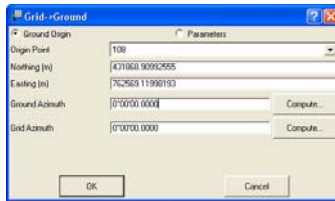

Figure 2-23. Creating Ground Projection Using the Ground Origin Option
**Method Two:** Rotation of the Ground from Grid is performed relative to some point in the job. Click the **Ground Origin** radio button (Figure 2-23) and take the following steps: